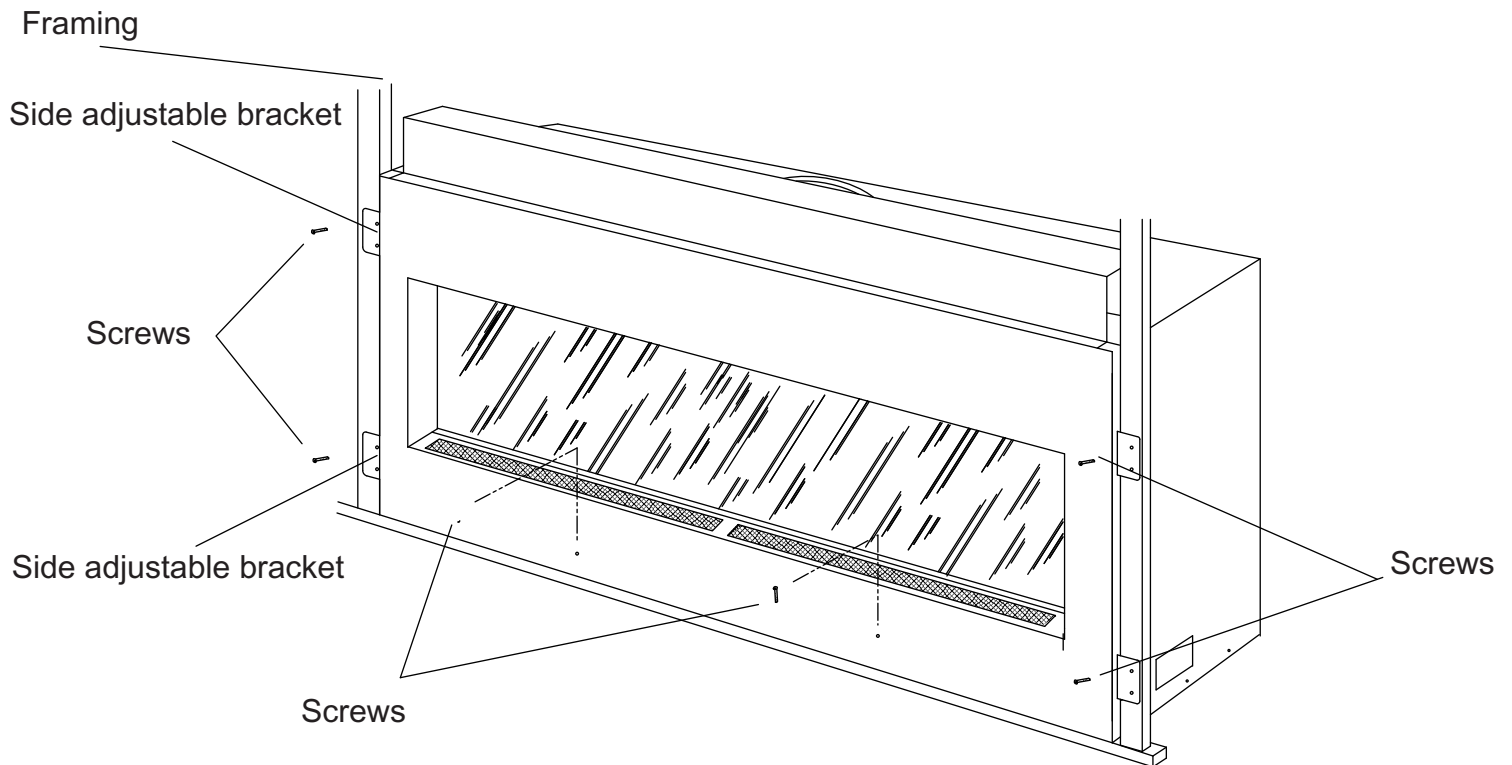

**Figure 4 - Locating Gas Fireplace**
- This fireplace may be installed along a wall, across a corner, or use an exterior chase. See *Figure 4* for suggested locations.